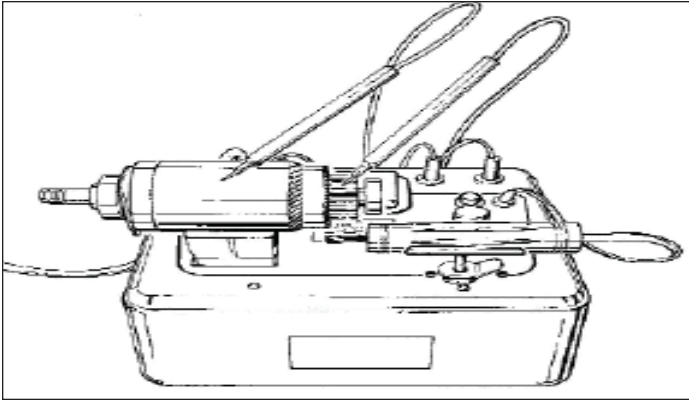

Figure 10-11. Checking Armature for Grounded Circuits
1. Check armature for grounded circuits by placing one test lead of a Dielectric Breakdown Tester, also referred to as a “growler”, on the commutator and other lead at armature shaft. The ground test light should not flash. A flash indicates failed insulation between core and armature wiring. See Figure 10-11.